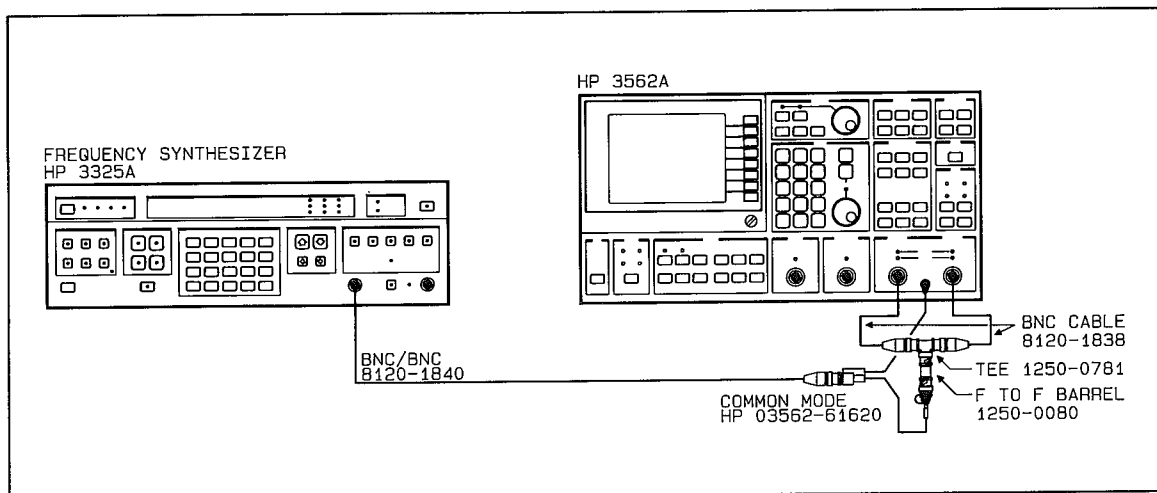

Figure 2-7 (OV) Common Mode Rejection Test Setup #2
5. Connect the test instruments as shown in figure 2-7.